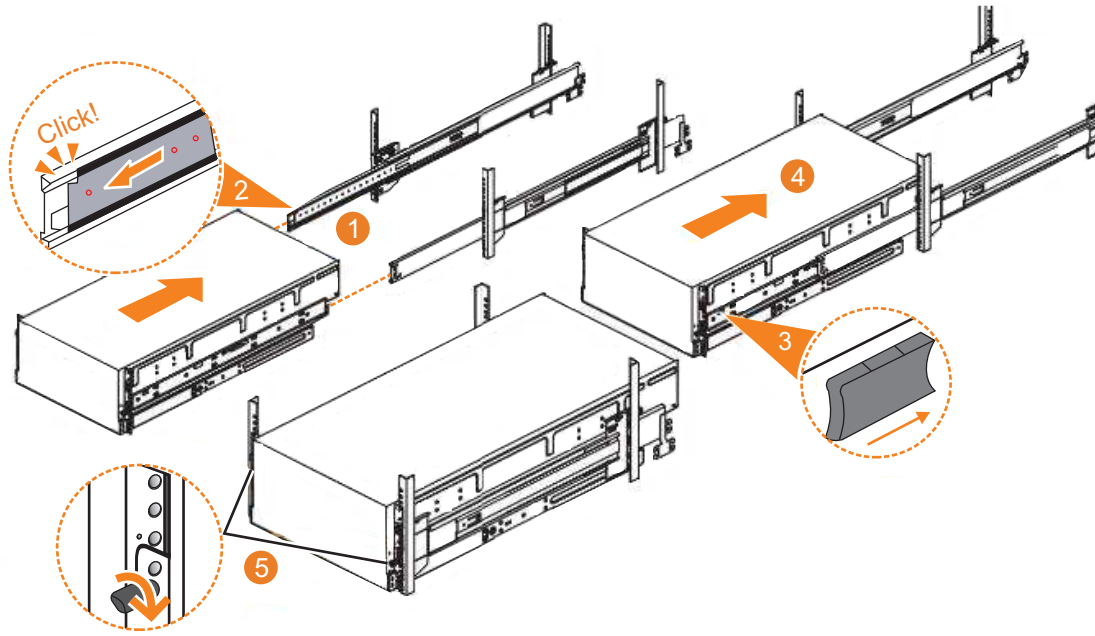

Figure 96. Replacing the 2076-92F enclosure in the rack
1. Fully extend the left and right drawer sections from the rack to lock the rails in the extended position ( **1** in Figure 96 on page 237).
2. Ensure that the ball bearing retainer clicks into place inside the front of the left and right drawer sections ( **2** in Figure 96).
6. Locate the left and right blue release tabs near the front of the enclosure. Press both release tabs forward to unlock the drawer mechanism ( **3** in Figure 96).
7. Push the enclosure firmly into the rack ( **4** in Figure 96).
8. Tighten the locking thumb screws ( **5** in Figure 96) to secure the enclosure in the rack.